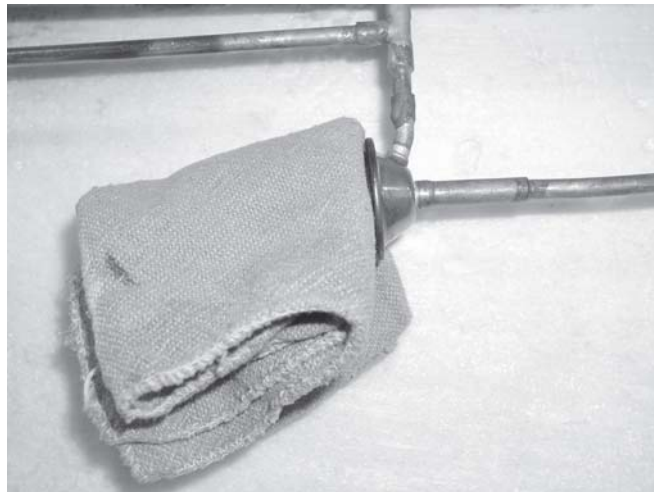

Figure 21. EPR Heat Sink
- Apply a heat sink (wet cloth) to the E.P.R. valve. Figure 21.